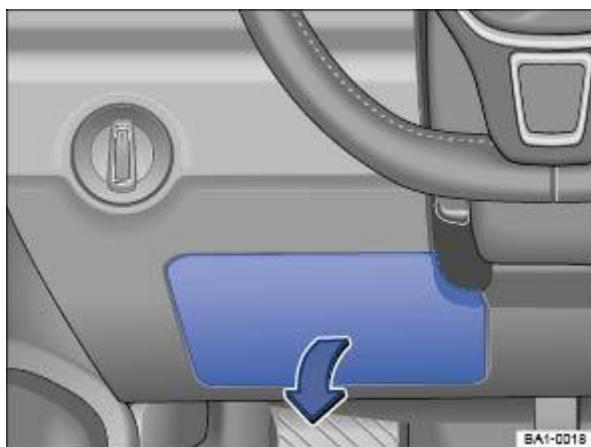

Fig. 170 Dash panel on the driver side: fuse box cover.
- ② Reach behind the cover ⇒ Fig. 170 and pull it forward.